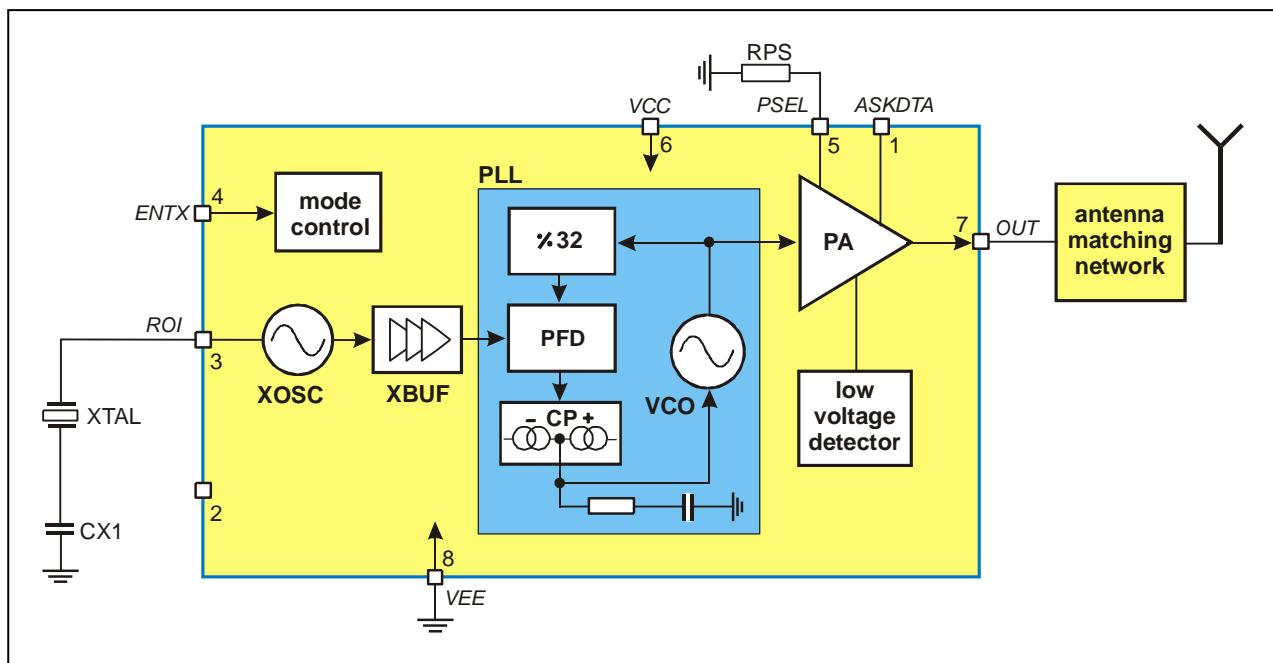

Fig. 1: Block diagram with external components
As depicted in Fig.1, the TH72012 transmitter consists of a fully integrated voltage-controlled oscillator (VCO), a divide-by-32 divider (div32), a phase-frequency detector (PFD) and a charge pump (CP). An internal loop filter determines the dynamic behavior of the PLL and suppresses reference spurious signals. A Colpitts crystal oscillator (XOSC) is used as the reference oscillator of a phase-locked loop (PLL) synthesizer. The VCO's output signal feeds the power amplifier (PA). The RF signal power P_{out} can be adjusted in four steps from $P_{out} = -12$ dBm to $+10$ dBm, either by changing the value of resistor R_{PS} or by varying the voltage V_{PS} at pin PSEL. The open-collector output (OUT) can be used either to directly drive a loop antenna or to be matched to a 50Ω load. Bandgap biasing ensures stable operation of the IC at a power supply range of 1.95 V to 5.5 V.